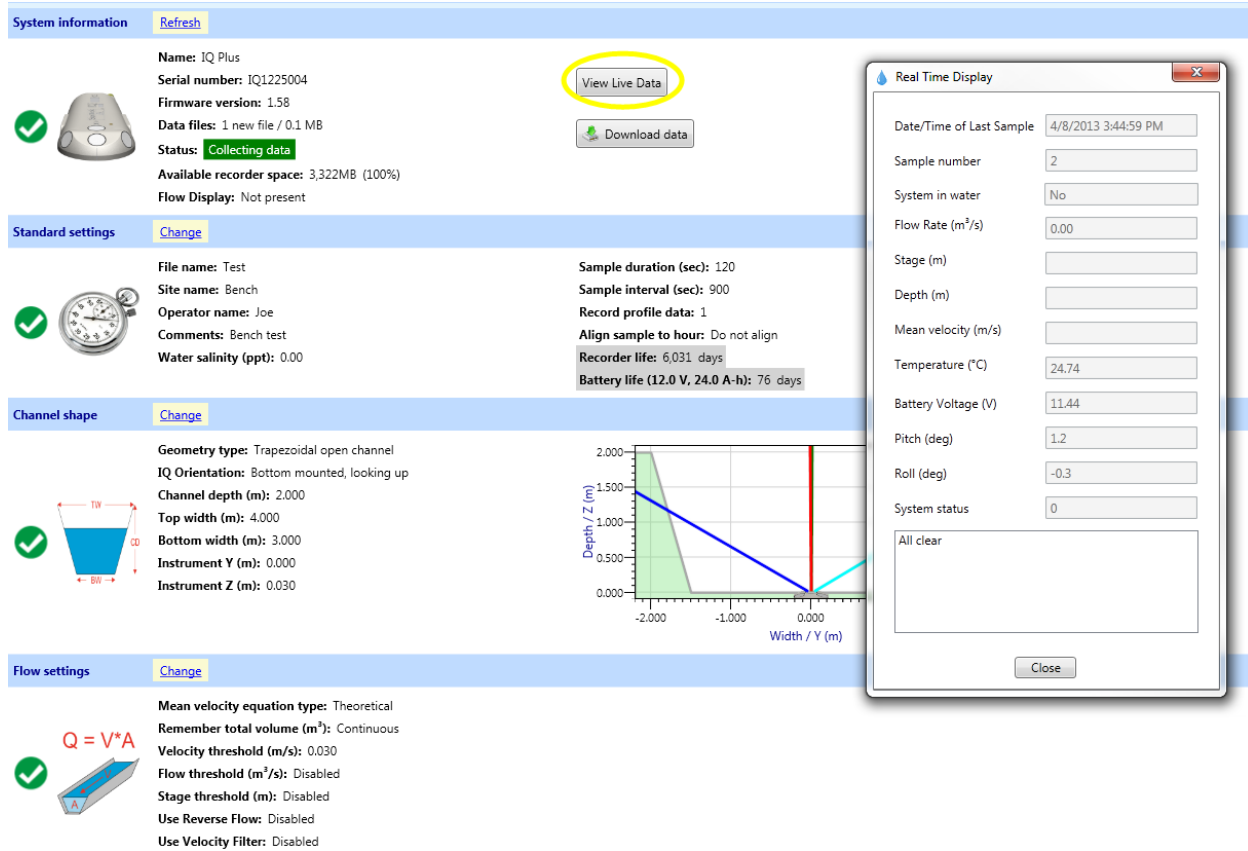

Figure 95. View Live Data
- The SonTek binary output format type must be selected to use **View Live Data** from the IQ software. Selecting **View Live Data** (Figure 95) on the IQ Smart Page shows a summary of the last measurement from the system. This function can be useful to view the latest data, or to check the orientation (pitch and roll) of the IQ during the installation process.